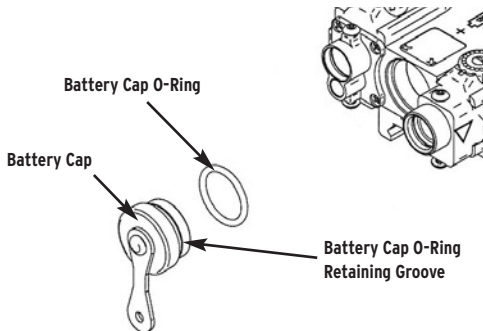

Figure 4. Battery Cap O-Ring Replacement
1. Unscrew Battery Cap (Figure 4) by turning counter clockwise.
2. Use the fingers of one hand to squeeze the Battery Cap O-Ring (Figure 4) while simultaneously pushing it out of the Battery Cap O-Ring Retaining Groove (Figure 4). Grasp the Battery Cap O-Ring (Figure 4) with fingers of the other hand and pull it off the battery compartment threads.
3. Use a disposable applicator to clean the Battery Cap O-Ring Retaining Groove (Figure 4) of any dirt, grease, or debris.
1. Stretch the Battery Cap O-Ring (Figure 4) over the battery compartment threads and slip it into the Battery Cap O-Ring Retaining Groove (Figure 4).
2. Replace the Battery Cap (Figure 4) and turn clockwise to tighten.